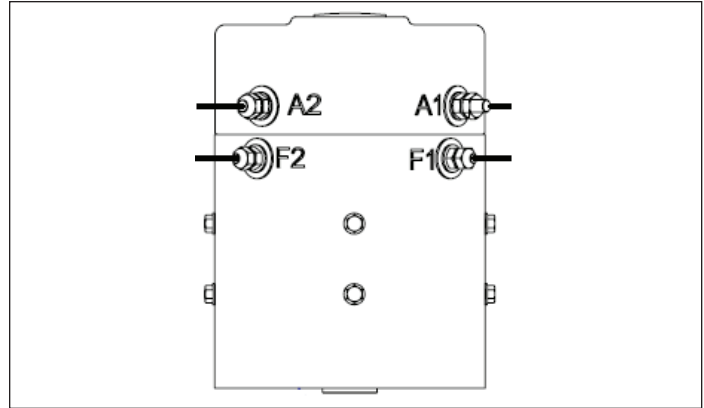

Figure 10-20. Traction Motor Cables Labels
3. Inspect electrical system cables for terminal identification (A-1, A-2, etc.). See Figure 10-20. Position cables to traction motor, double checking wiring diagram to motor cable installation to ensure connections are correct.